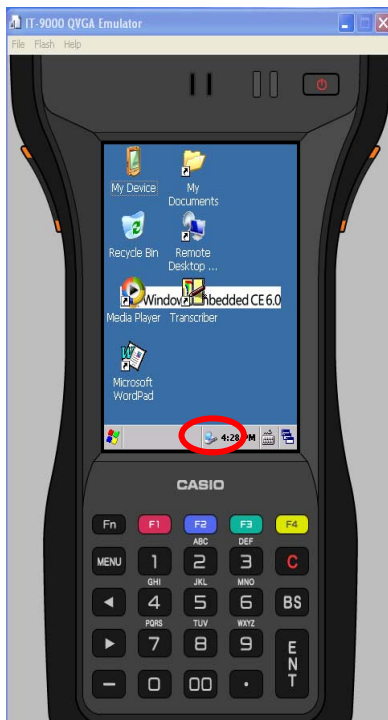

Figure 7.16
5. Make sure ActiveSync has started up and the  icon in the status bar appears. See the emulated screen of IT-9000 in Figure 7.16. The icon indicates that the connection via ActiveSync has been established.